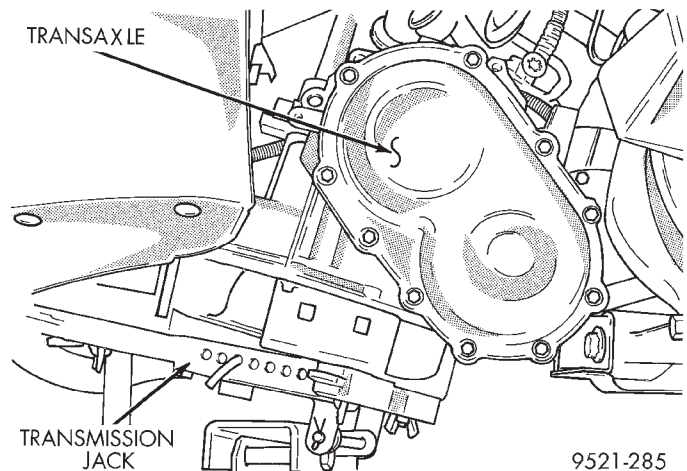

Fig. 54 Transmission Jack
- (29) Position transmission jack under transaxle and support with safety chain (Fig. 54).